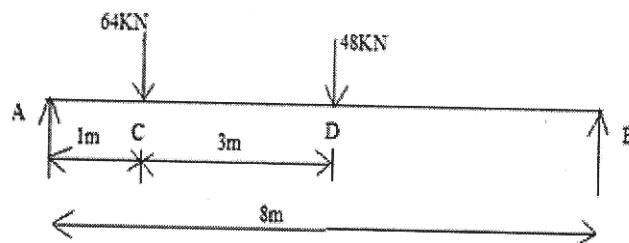

Fig. 4
3. (a) A simply supported beam of 8 m length is loaded as shown in Fig 4. Find deflection under each load. Take  $E = 210 \text{ GPa}$  and  $I = 180 \times 10^6 \text{ mm}^4$ . [6]